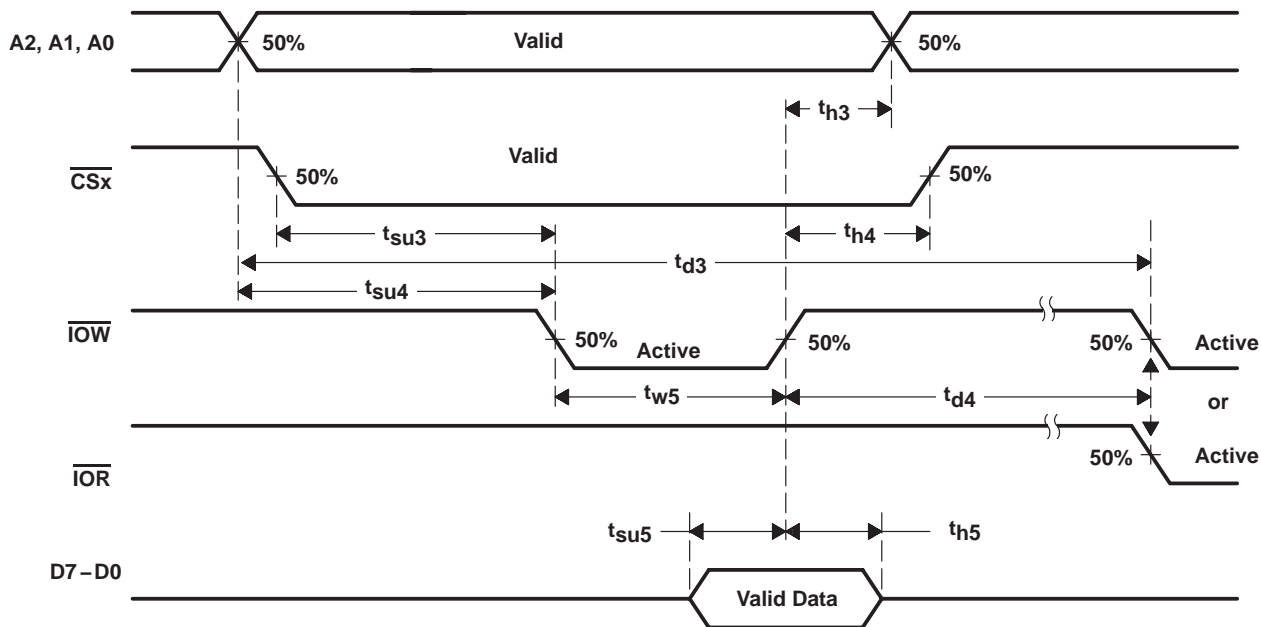

Figure 5. Write Cycle Timing Waveforms
**write cycle timing requirements over recommended ranges of operating free-air temperature and supply voltage (see Figure 5)**